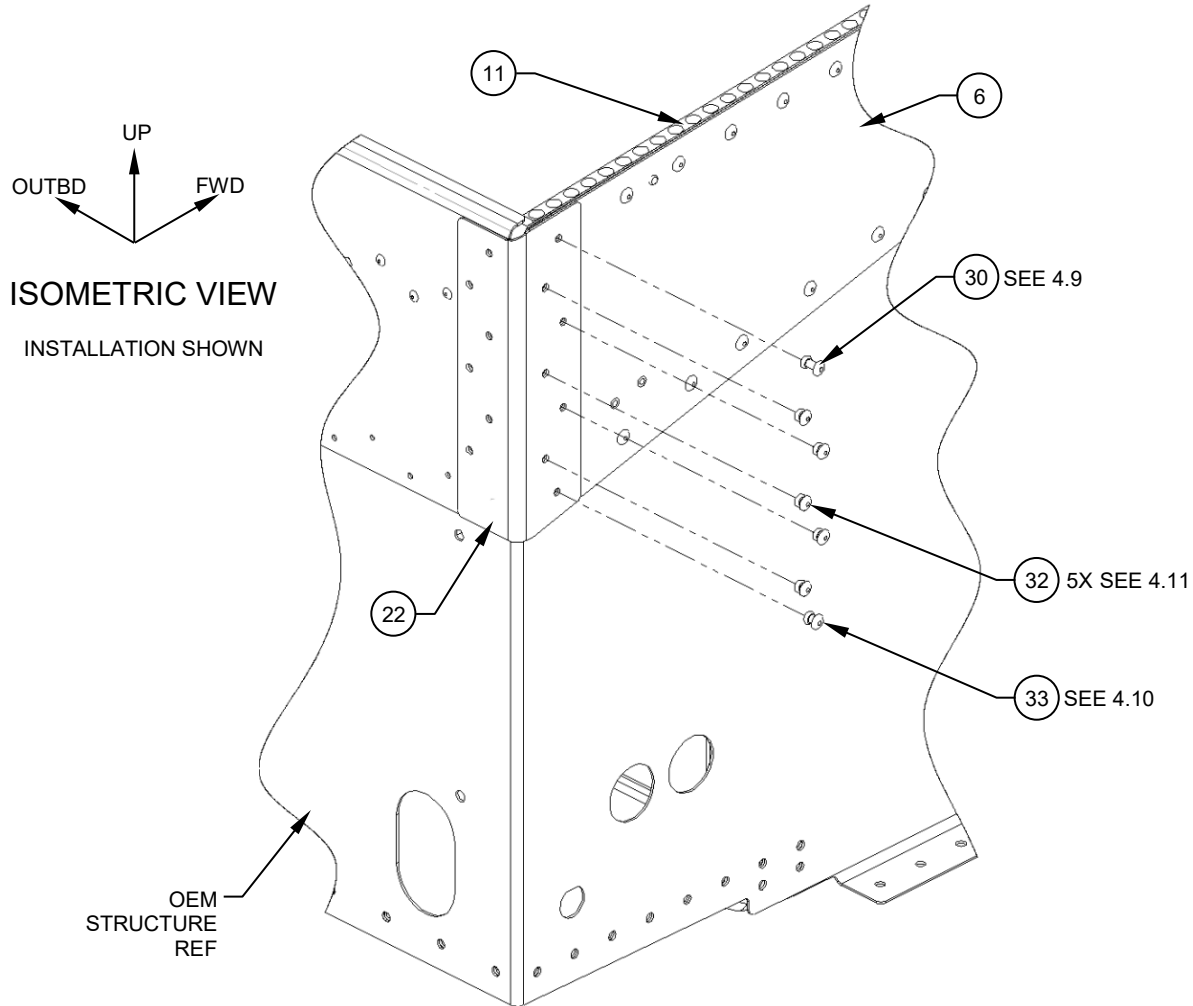

Figure 21
- 4.9. For the upper OUTBD rivet hole on the RHS Angle, Detail, (Item 22), skip the first hole and drill the second hole, on the Dzus Rail, Detail, (Item 11), and back drill from the fourth hole on the Dzus Rail, Detail, (Item 11), through the RHS Angle, Assy, (Item 6), RHS Angle, Detail, (Item 22), then 1x Rivet, Solid, Universal Head, (Item 30). See Figure 21.
- 4.10. For the lower OUTBD rivet hole on the RHS Angle, Detail, (Item 22), back drill from the aft most OEM rivet location, through the RHS Angle, Assy, (Item 6), RHS Angle, Detail, (Item 22), then 1x Rivet, Solid, Universal Head, (Item 33). See Figure 21.
- 4.11. For the remaining five locations drill through existing holes in the RHS Angle, Detail, (Item 22), through the RHS Angle, Assy, (Item 6), and 5x Rivet, Solid, Universal Head, (Item 32). See Figure 21.